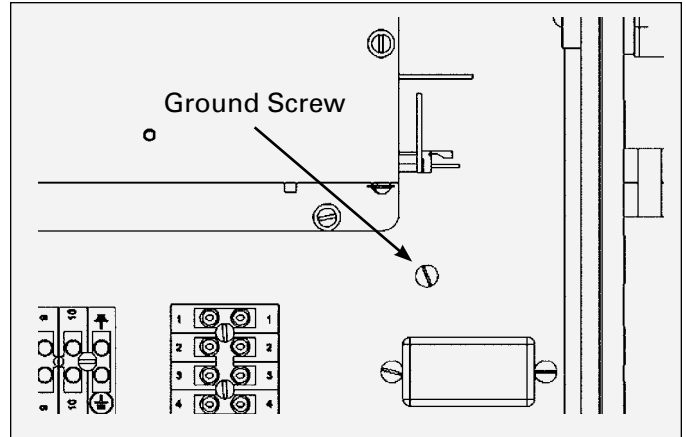
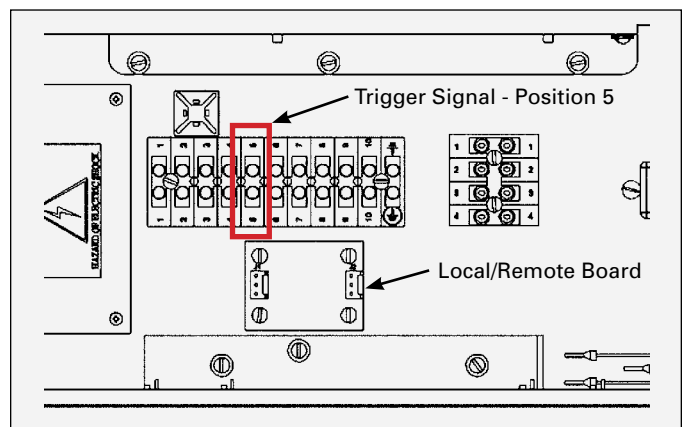
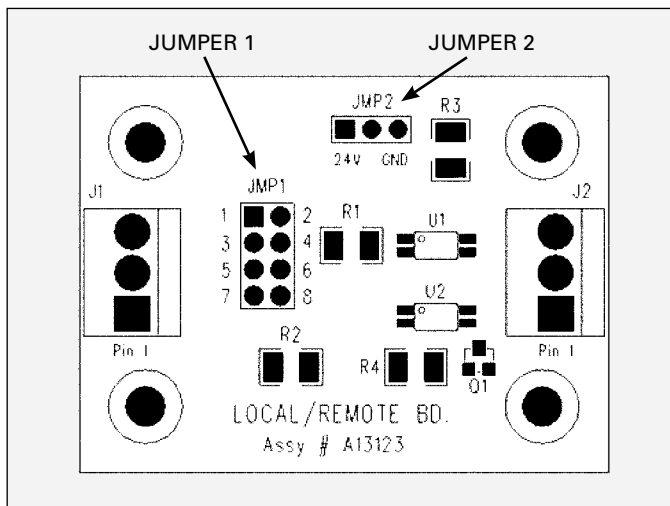

Figure 13: Ground Screw on Base Plate
Figure 14: Remote I/O Signal Terminal Block
Figure 15: Local/Remote Board Jumper Headers
3. If the flow switch is being used, connect the ground (green) lead from the flow switch to the ground screw on the base plate shown in Figure 13. The trigger signal (blue) lead should be connected to the trigger signal on the remote I/O terminal block connector (Position 5) as shown in Figure 14.
4. The local/remote board (Assy# A13123), shown in Figure 14 at the bottom below the remote I/O signal terminal block, is designed for trigger protection in REMOTE mode. It must have the jumpers adjusted into “bypass position” to allow for LOCAL mode operation for the desired input type. The location of the jumpers on the board is displayed in Figure 15. Use the LOCAL mode jumper settings table for the jumper settings based upon your specific input.
6. The local/remote board (Assy#A13123), jumpers must be adjusted into one of the two REMOTE settings, based on the desired input type, to allow for REMOTE mode operation. The location of the jumpers on the board is displayed in Figure 15. Use the REMOTE mode jumper settings table for the jumper settings based upon your specific input.